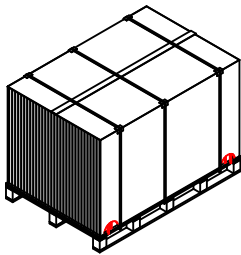

Figure 3
3. Cut the cardboard of one long side of the box , then cut the inner packing-belts around the modules and pallet, as shown in Figure 3. Pay attention to not damage the modules during the cutting process.